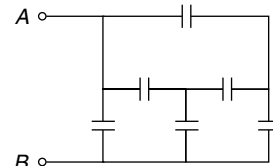

Fig. 1.58
30. If each of the capacitances is C , find the equivalent capacitance between A and B (Fig. 1.58).